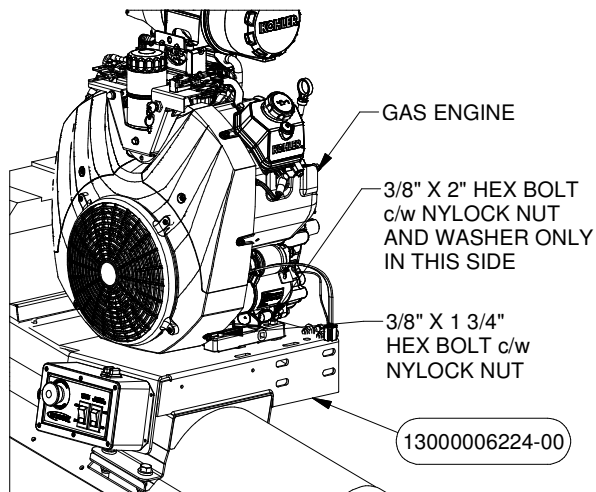

FIGURE 17
31. Attach the Gas Engine to the Engine Mount PN# 6224 using Hex Bolts c/w Nylock Nut and Washers as shown in Figure 17. Fasteners can be found in Bolt Bag PN# 6064. Bolt Bag can be found in Reliabelt Gas Hardware Box PN# 10706.